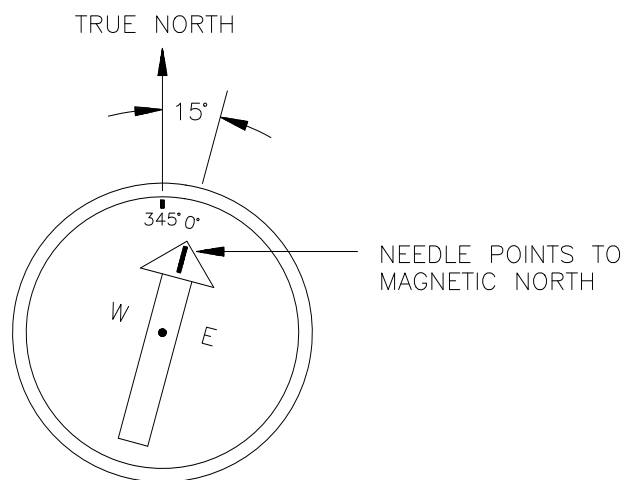

FIGURE 9-2. A declination angle east of True North (positive) is subtracted from 360 (0) degrees to find True North
Declination angles are always subtracted from the compass reading to find True North. A declination angle east of True North is reported as positive a value and is subtracted from 360 (0) degrees to find True North as shown FIGURE 9-2. A declination angle west of True North is reported as a negative value and is also subtracted from 0 (360) degrees to find True North as shown